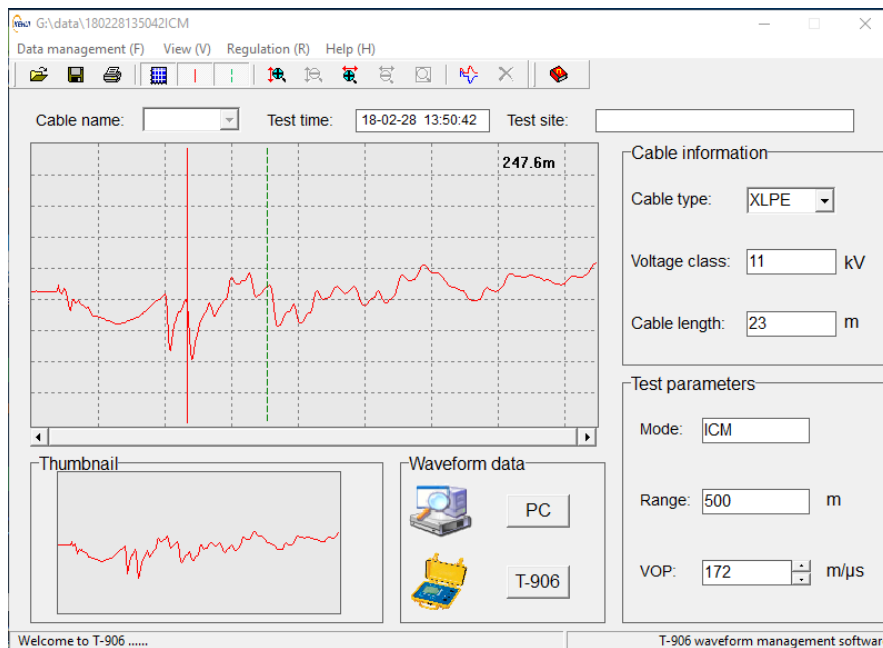

Figure 6.1 T-906
- The resulting waveform is displayed as in Figure 6.1.